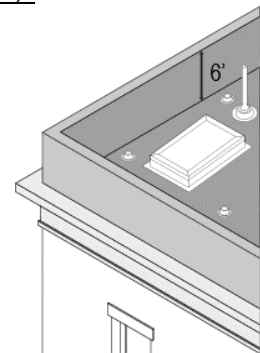

Figure 20: Parapet
- d. Flat roofs shall be screened from adjacent properties and streets with decorative parapets. The maximum height of the parapet wall shall be six feet or sufficient height to screen all roof mounted equipment, whichever is greater, measured from the top of the roof deck to the top of the parapet wall (Figure 20).